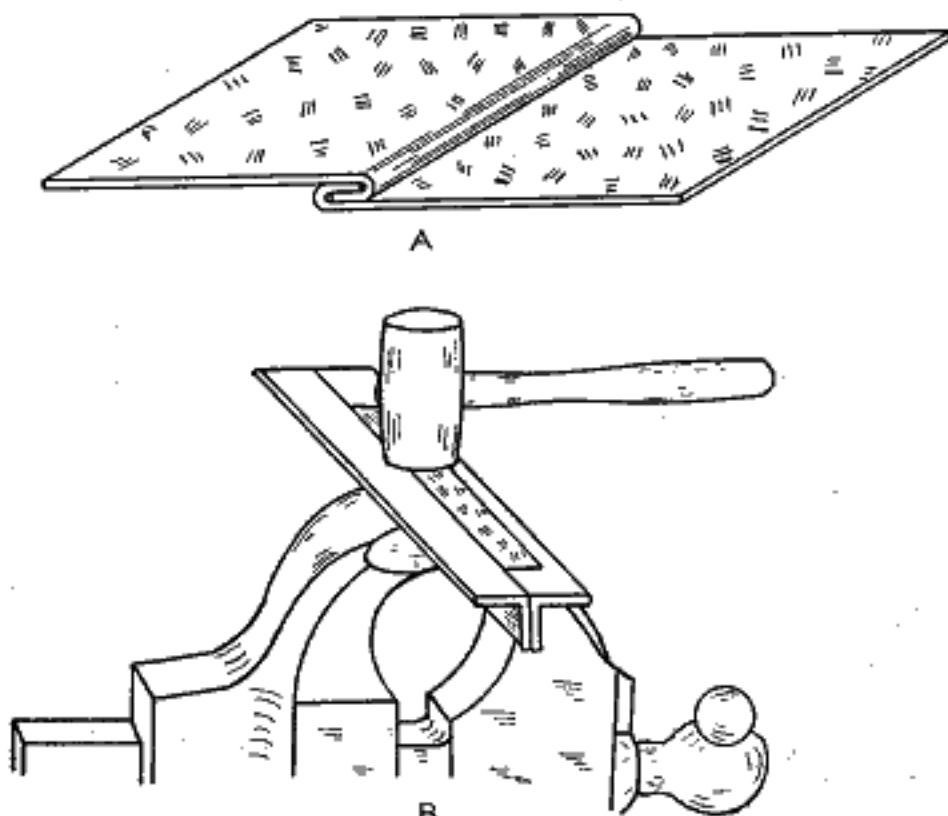

FIG. 239.—A. The hook or lock joint is a good method of joining pieces of sheet metal. It is easily soldered.
**271. Folding Edges and Forming Joints.**—Frequently a hook or lock joint as illustrated in Fig. 239 can be used to advantage in making appliances of sheet metal. It is strong, easily made, and gives a neat, finished appearance to a piece of work.